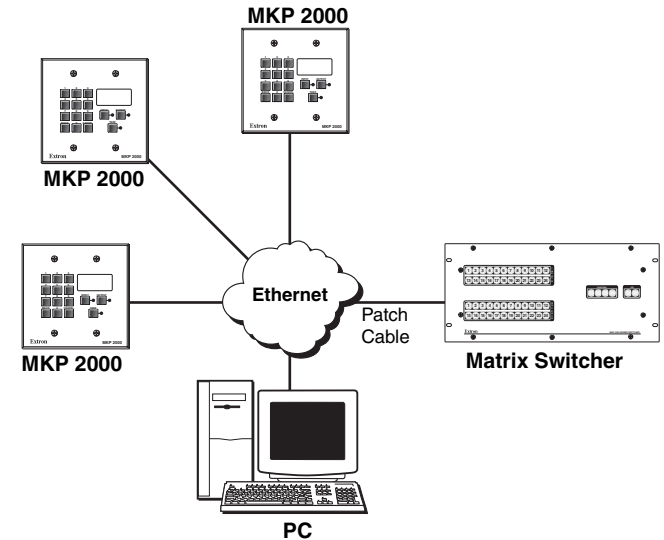

Figure 2-10 — Network MKP connection using the LAN port
Any number of control panels can be connected, as part of a network, to any Ethernet-enabled matrix switcher via the switcher's Ethernet port (figure 2-10). All TP cables in this example are wired as patch (straight) cables.
- **Patch (straight) cable** — Network connection between the MKP and an Ethernet LAN (figure 2-10).